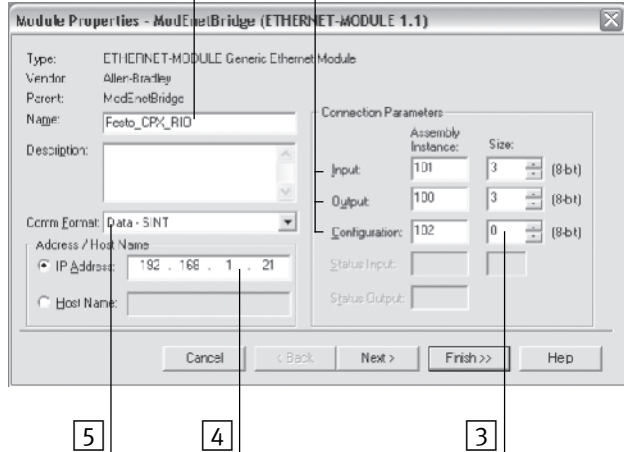

Fig. 2/7: Enter values for “Module Properties”
- Enter at least 1 for the instances for inputs (2 in Fig. 2/7) or